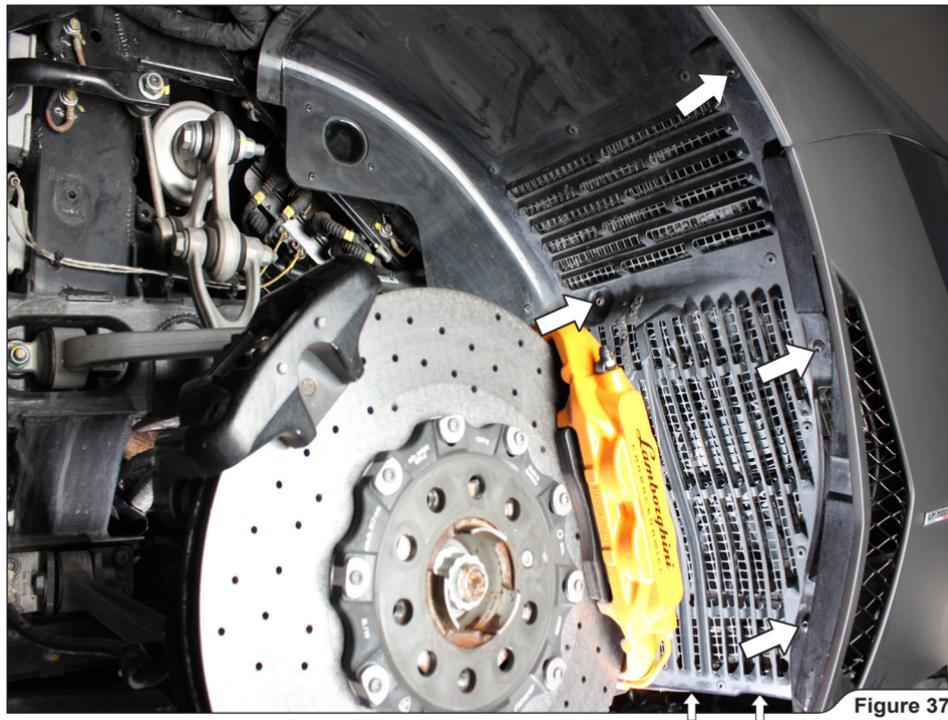

Figure 37
12. **Installation of Wireless Kit:** unscrew and remove the front part of the right side wheel arch panel (Figure 37).